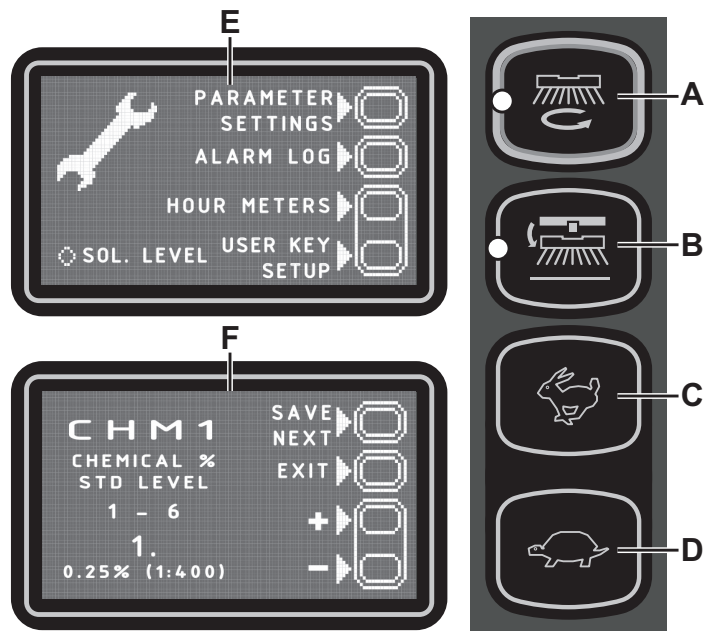

Figure 8
**Main Screen (E, Fig. 8)**
1. Put the supervisor key (yellow) in the key reader (41) instead of the user key (blue), then press the push-button (42) to show the main screen on the display.
2. Press push-button (A) to change the machine settings (see Machine Settings Screen section).
3. Press push-button (B) to check for any stored machine alarms (see Alarms Log Screen section).
4. Press push-button (C) to check the machine's hours of operation (see Operating Time Counter Screen section).
5. Press the push-button (D) to enter the user key management menu (see the User Key Management Screen paragraph).
**Machine Settings Screen (F, Fig. 8)**
This function allows you to check for any stored alarms on the machine. Use this function only with support from a Nilfisk Service Centre to solve any operating problems. To return to the main screen (E, Fig. 8), press push-button (A) repeatedly.
To return to the main screen (E, Fig. 8), press push-button (A).